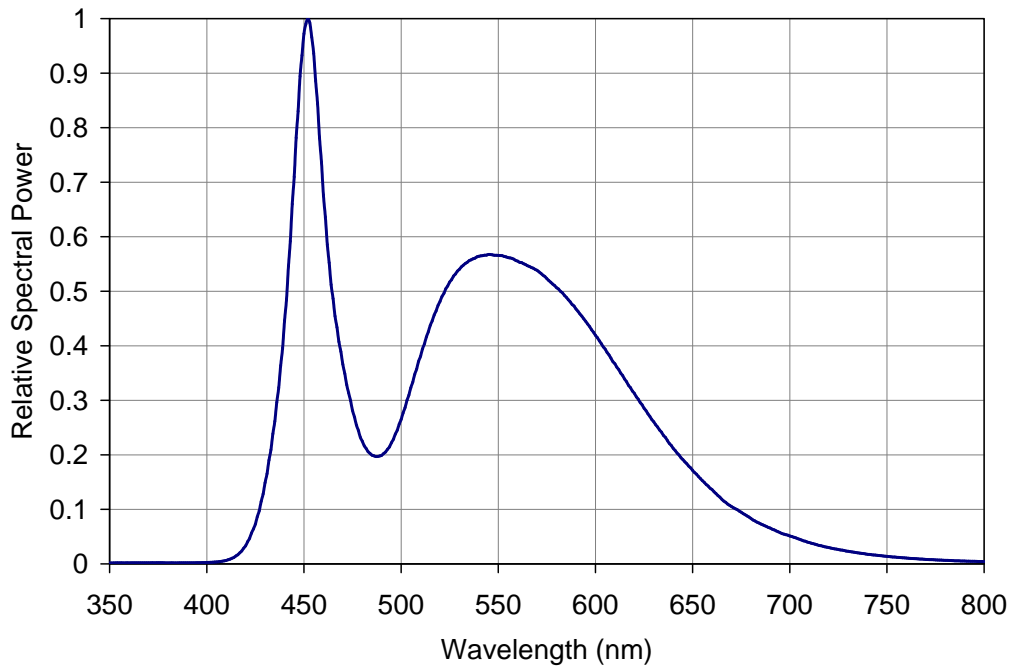

Figure 5: Relative spectral power vs. wavelength @ T_C = 25°C.
- Solder conditions per JEDEC 020D. See Reflow Soldering Profile Figure 5.